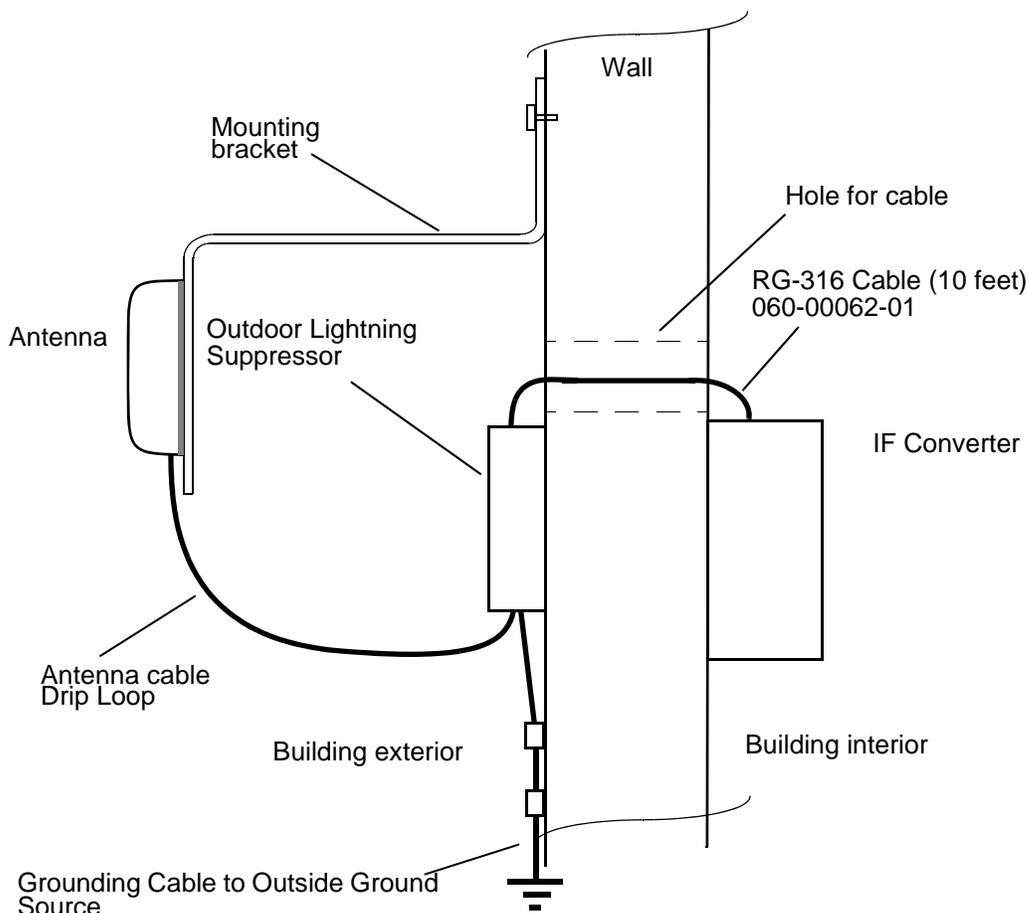

Figure 3-11 Wall Antenna Outdoor Lightning Suppressor Mounting
24.	Mount the outdoor lightning suppressor mounting bracket to the outside wall shown in Figure 3-11 .